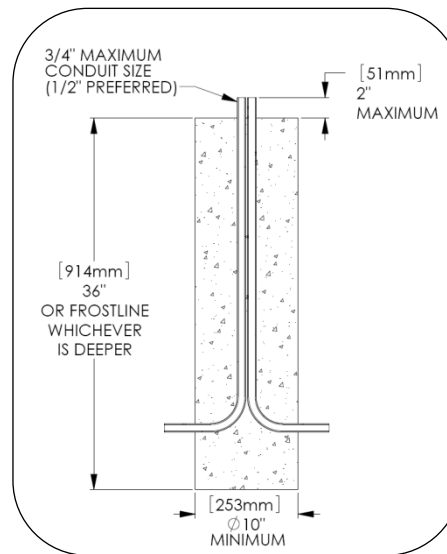

Fig. 1 – Minimum footing recommendation
1. Prepare footing as required by local codes, see Figs. 1, 2, 4 for recommendations.